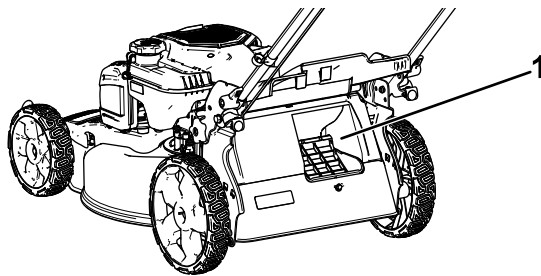

Figure 17
**Important:** For proper operation, shut off the engine, wait for all moving parts to stop, and then remove any grass clippings and debris from the bag-on-demand door and the surrounding opening (Figure 17) before you move the bag-on-demand lever from 1 position to another.